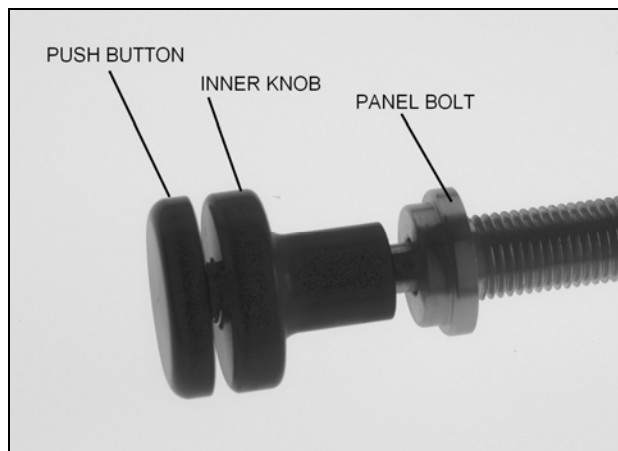
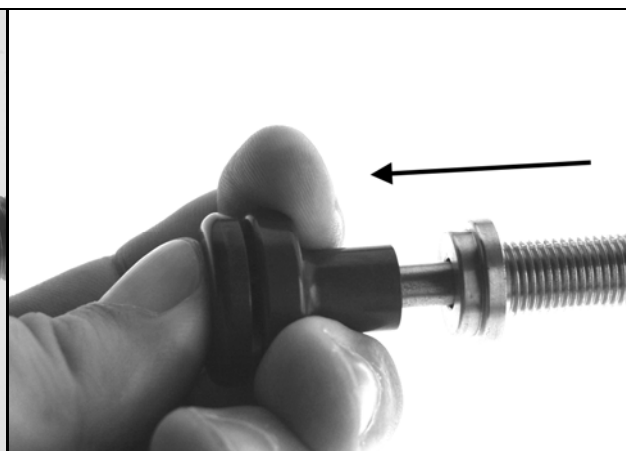

Figure 1
Figure 2
1. Squeeze the **PUSH BUTTON** and the **INNER KNOB** together and pull the assembly out of the **PANEL BOLT**. (Figure 1 & Figure 2)